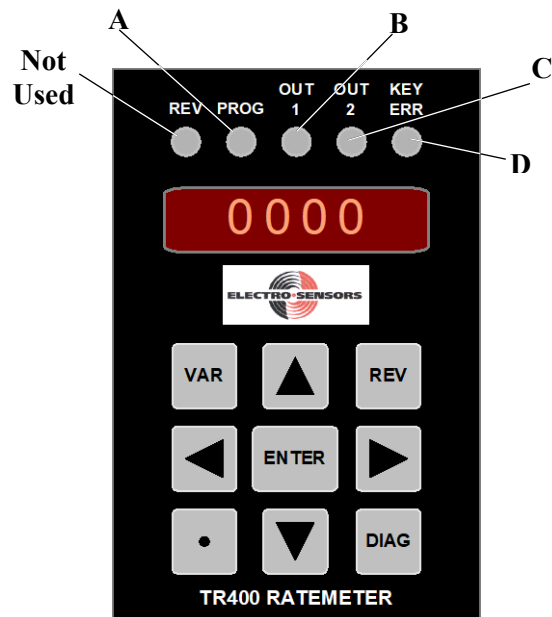

Figure 12a: TR400-C Front Panel Description
The TR400-C* face contains five (5) status LEDs, a four-digit display, and a keypad containing nine (9) keys. See Figures 12a and 12b. The letters in Figures 12a and 12b represent each part on the front panel of the TR400-C. The Parts and Functions table 3 describes the function of each of the parts.